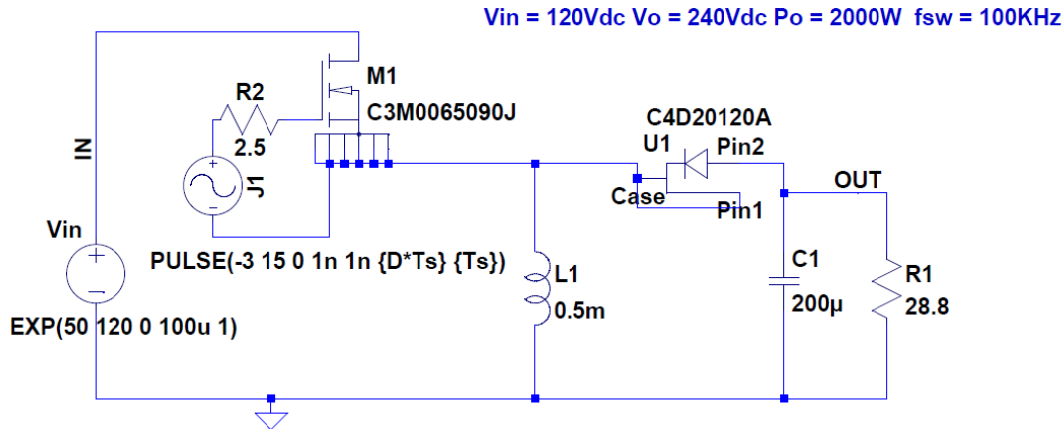

Figure 1: 2KW Buck Boost converter model circuit
3. The model will be similar to the one shown in figure 1.